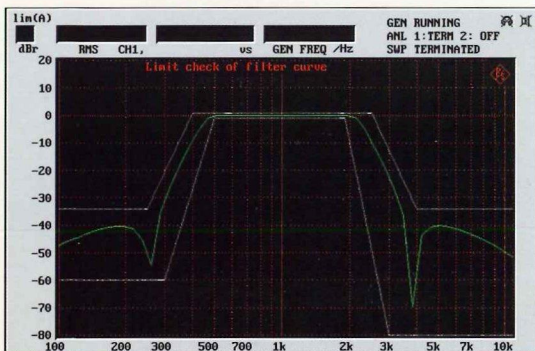

Fig. 8: Tolerance curves enable fast go/nogo tests
- High measurement speed is vital for achieving a high production throughput. By making appropriate use of the instrument functions, go/nogo decisions can be made already in the audio analyzer, thus reducing the run time of a DUT (Fig. 8).